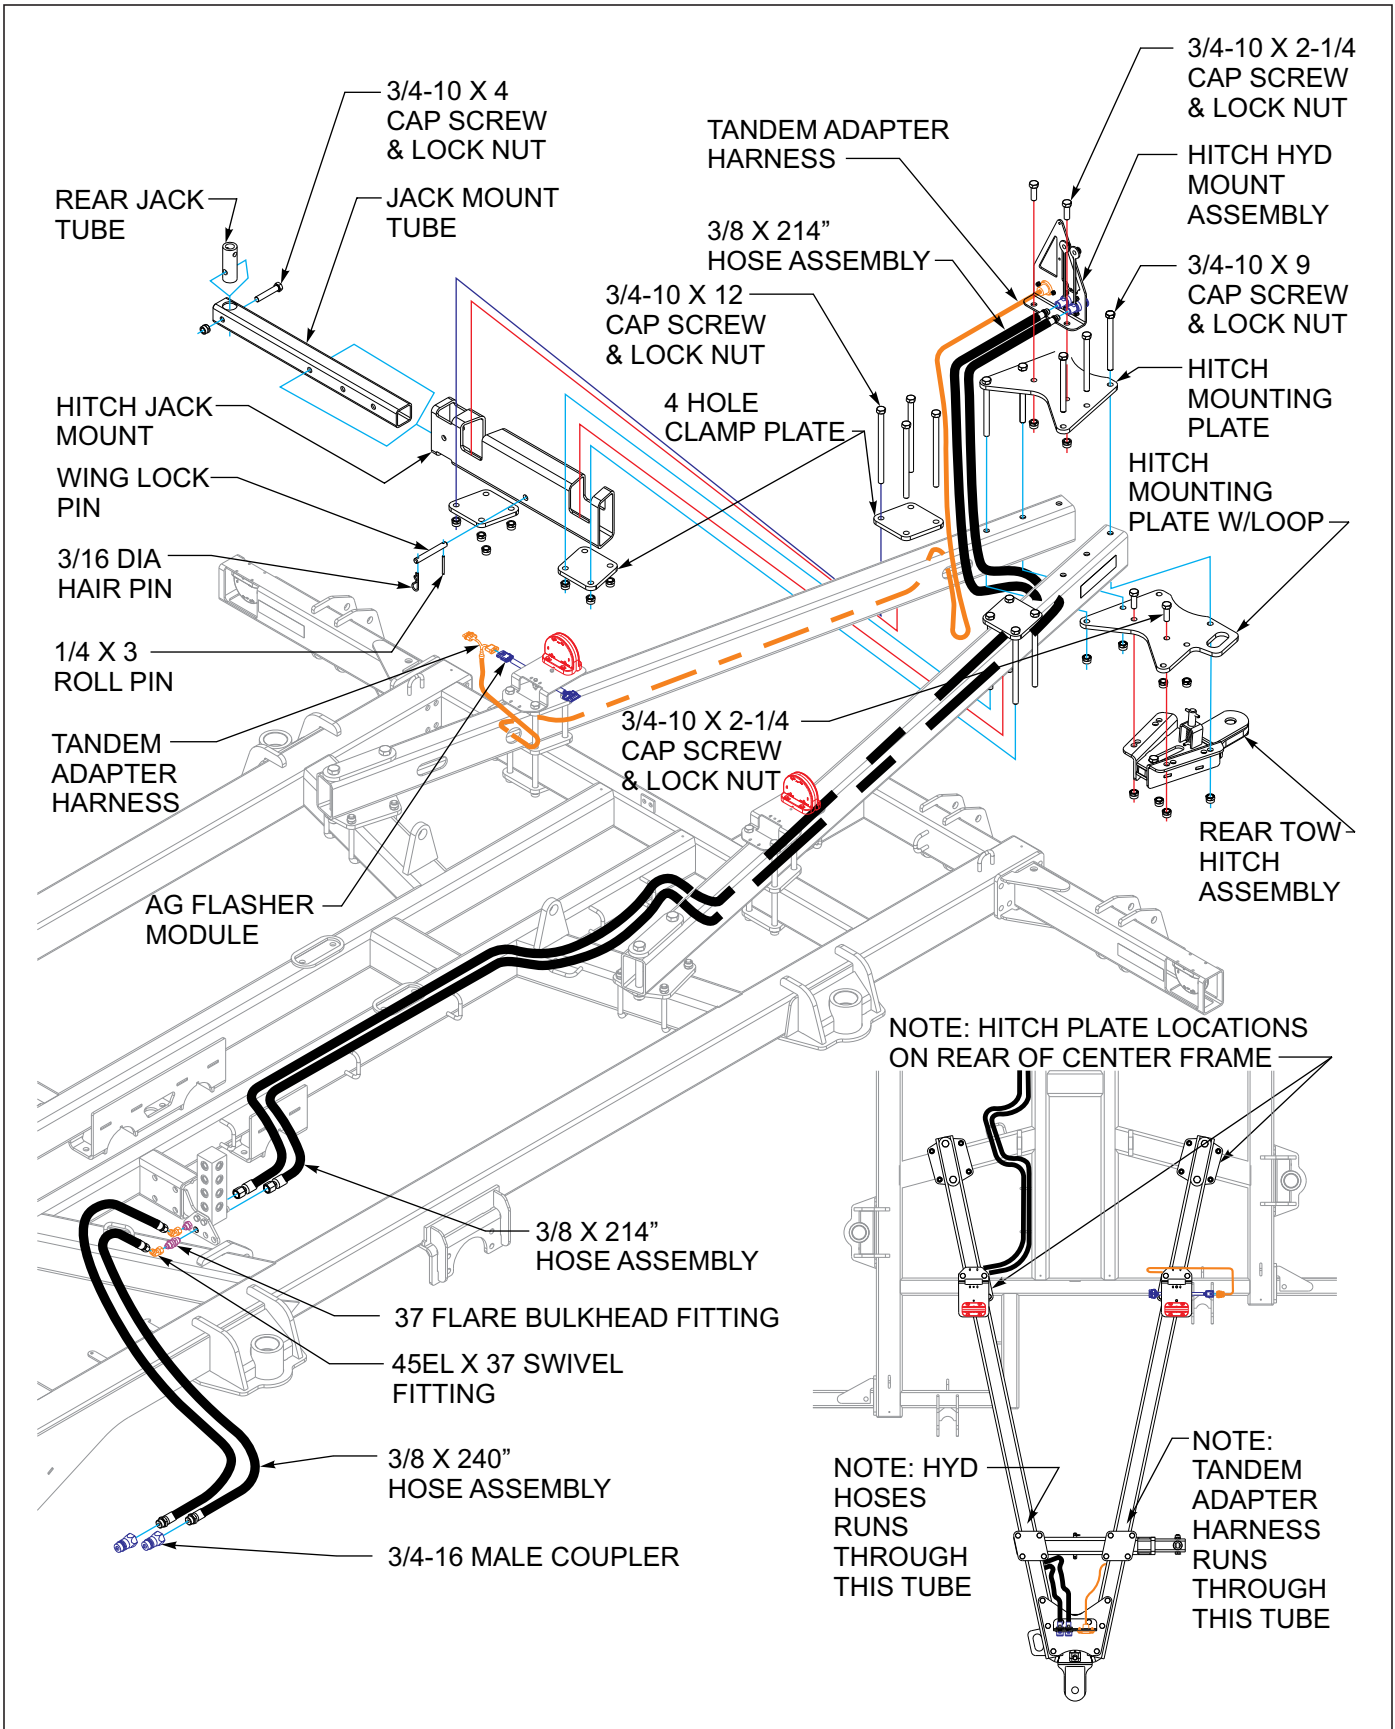

Figure 3-22: Rear Tow Hitch Installation (2 of 2)
9. Attach the hitch hyd mount assembly, hitch mounting plate, hitch mounting plate w/loop and rear tow hitch assembly to rear of rear tow hitch tubes with hardware shown (See Figure 3-22.)
10. Now the hitch jack mount and 4 hole plates may be installed to the rear hitch tubes in position shown (See Figure 3-22.)
13. Route hydraulic hoses on left side of hitch, through tube and follow hose loops to front as shown (See Figure 3-22.). Connect one end of the 3/8 x 214" hoses to the couplers on the front of the hitch hyd mount assembly and the other end to the 37 flare bulkhead fittings. Connect the 3/4-16 Male Couplers To The 3/8 X 222" Hose Assembly. Attach the other end of the hoses to the 45el x 37 swivel fittings as shown.